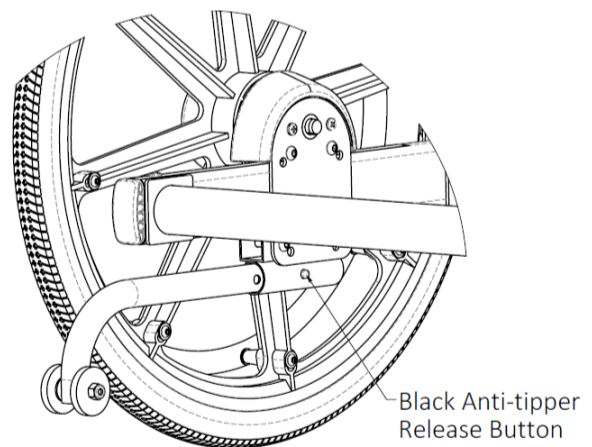

Figure 14.32: Installing anti-tip tubes
1. Press and hold the release button on the anti-tip tube. (See Figure 14.32)